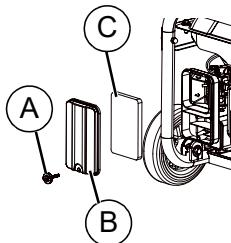

Figure 4-3. Air Filter Assembly
1. See *Figure 4-3*. Turn knob (A) and remove air filter cover (B).
2. Wash in soapy water. Squeeze filter (C) dry in clean cloth (DO NOT TWIST).
- NOTE:** To order a new air filter, contact the nearest authorized service center at +1 (855) 801-0798.